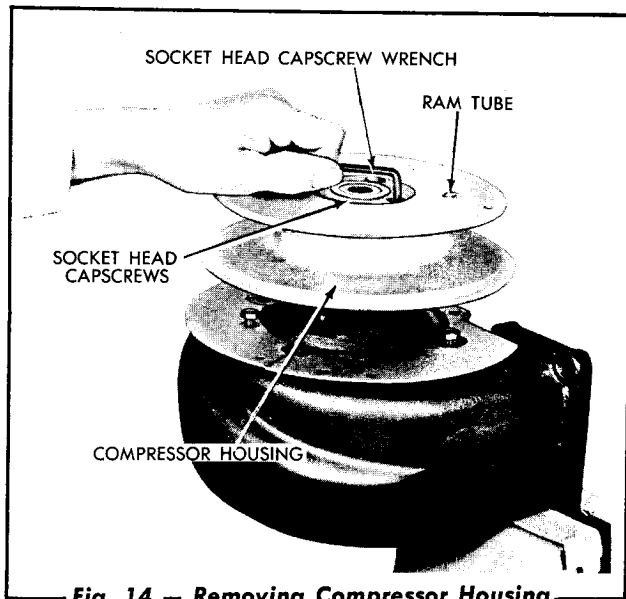

Fig. 14 — Removing Compressor Housing
- b. Loosen and remove socket head cap screws (Fig. 14).
- f. The ram tube located on the compressor side of the compressor housing (Fig. 14) cannot be removed. However the opening in the tube and the opening in the area between compressor end seal rings should be thoroughly cleaned using compressed air jet. If necessary, use a .030 diameter wire to clean the opening between the seal rings.